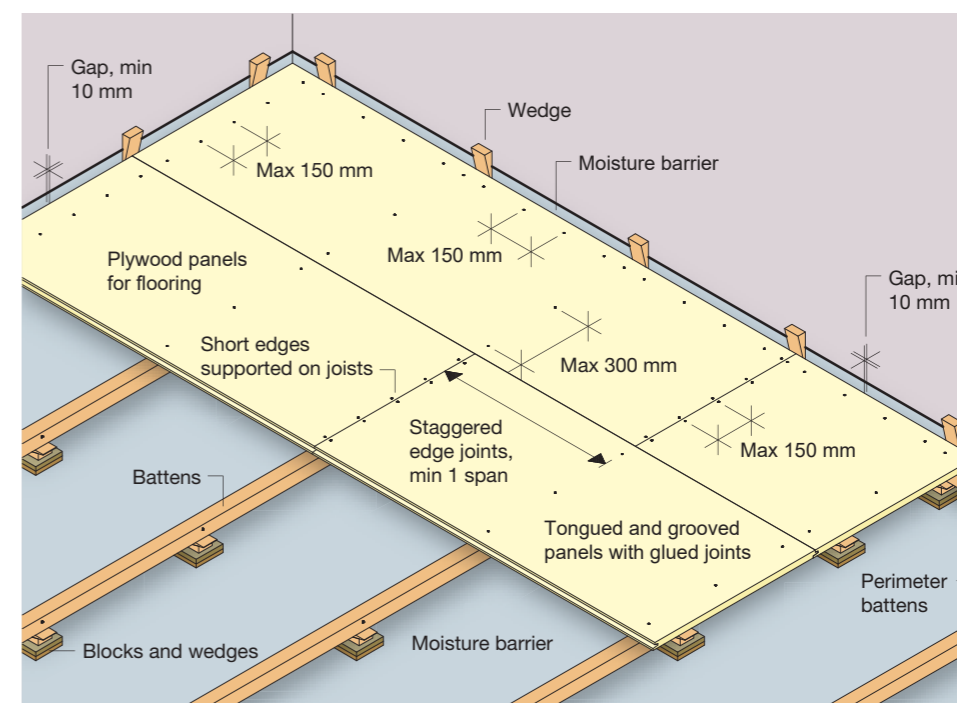

Figure 2: Tongued and grooved edge sub-floor should be laied across a series of battens with short edges supported on battens, and with insulation between.
- Sub-floor where the floor decking is attached to a series of battens which has insulation between them, see figure 2
Tongued and grooved boards should be laid across the joists or battens with both short edges supported on a joist or a batten. Maximum strength and stiffness will be obtained if each panel is continuous over at least two spans between joists/battens. Panels should be laid to break joint, ie with staggered short edge joints to avoid lining them up. (see figure 2).